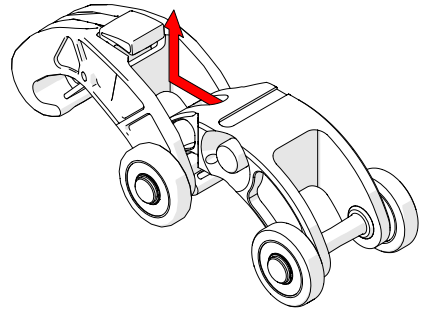

Fig. 30 - Slide Dovetail QuickLink forward and lift
2. While pressing the red button, slide the Dovetail QuickLink forward and up, clearing the hook of the Dovetail QuickLink from the 2nd QuickLink's axle (*Fig. 30*).